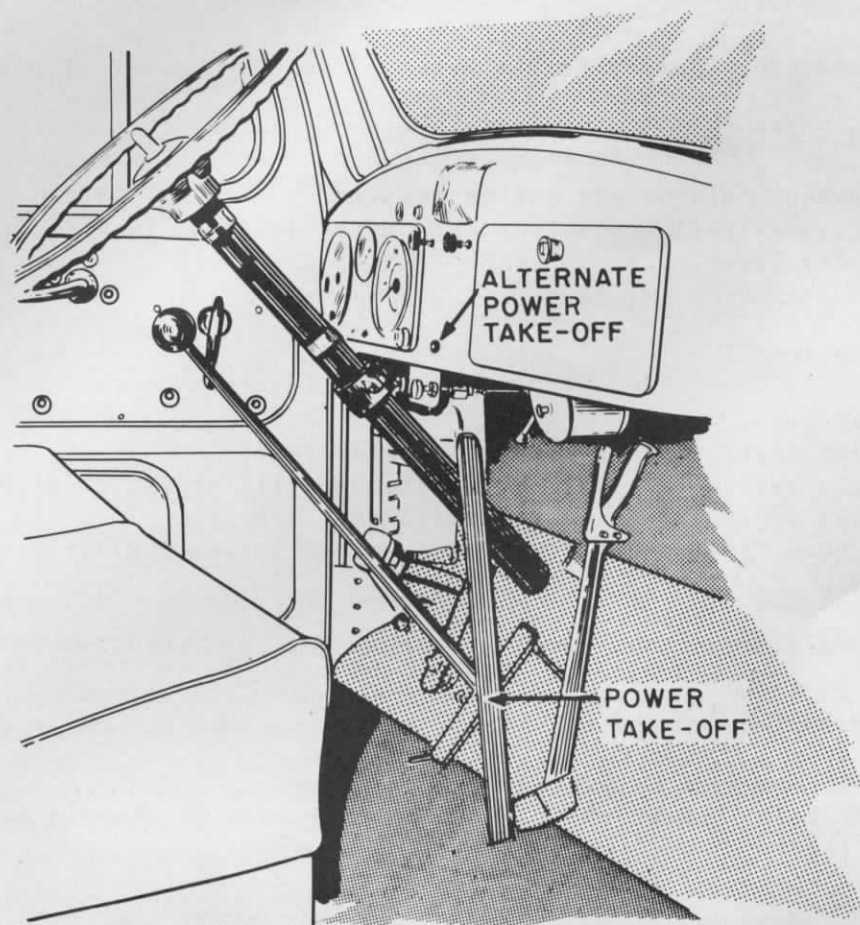

FIG. 2
- (a) The Power Take-Off engagement lever located in the cab as shown in Fig. 2 (including alternate).
Note: Some models have the Power Take-Off on the floorboard (Fig. 2)